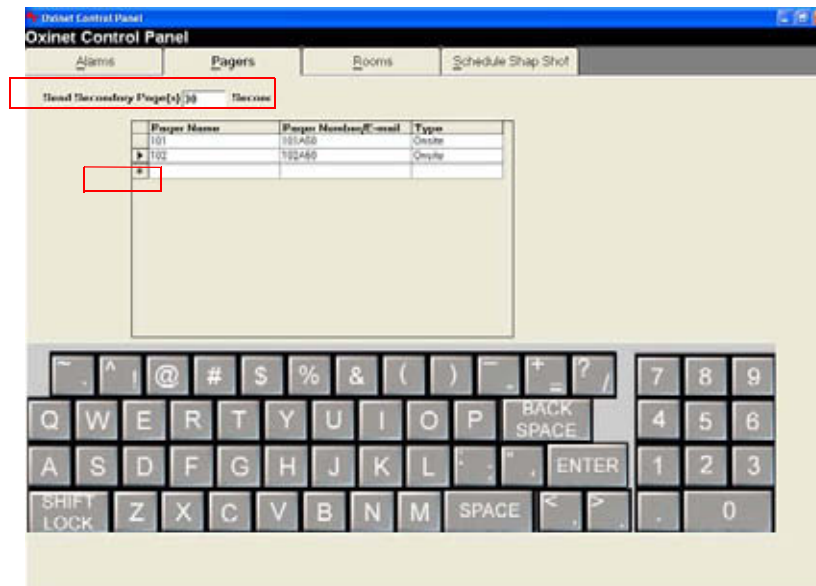

Figure 25: Pagers Menu — Initial
- 1 Press (or click) the **Pagers** tab to open the **Pagers** menu as shown in Figure 25.
- 2 Use the *Send Secondary Page(s)* field to set the interval (in seconds) between the initial page to the primary pager and the page to the secondary pager(s), if pagers are assigned to the patient. For example, if you type **30** (Figure 25), the secondary pager notification will occur 30 seconds after the initial page occurs (if no one responds to the initial alarm page to either silence the alarm at the oximeter or resolve the reason for the alarm).
- 1 Press (or click) the starred (*) cell (Figure 25) in the *Pager Name* column.